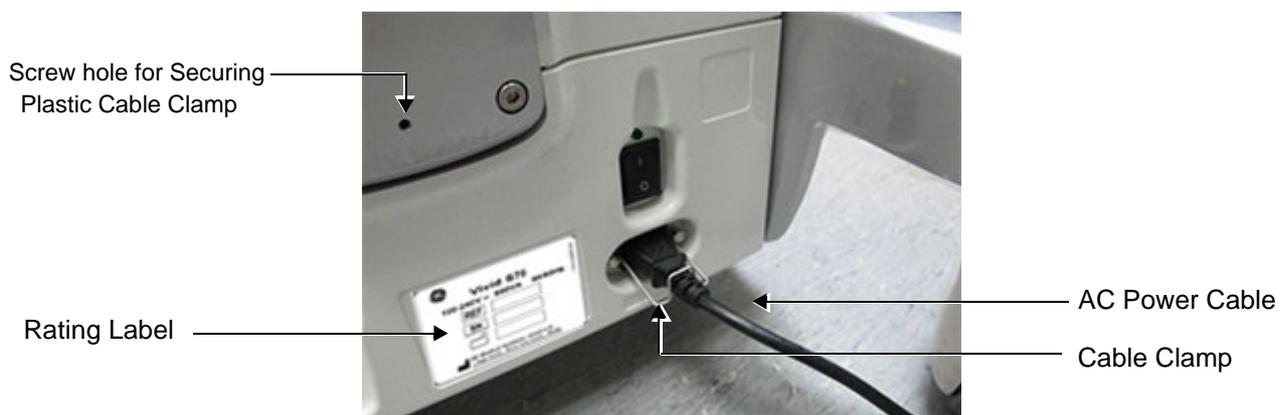

Figure 4-2 AC Power Cable Connected - Rear Panel
- 6.) Connect the AC Power Cable female plug to the Power Inlet (AC IN) at the rear of the unit - see Figure 4-1. Use the cable clip to secure the cable firmly in the socket (Figure 4-2).
Note: In the next step, it is necessary to screw the plastic cable clamp (into the hole provided in the support column - centrally located at the rear of the system, see Figure 4-2). Then, to route the Mains Power cable upwards and through the clamp, and secure the clamp in position to prevent the cable from dangling down and becoming caught in the wheels when moving the scanner.